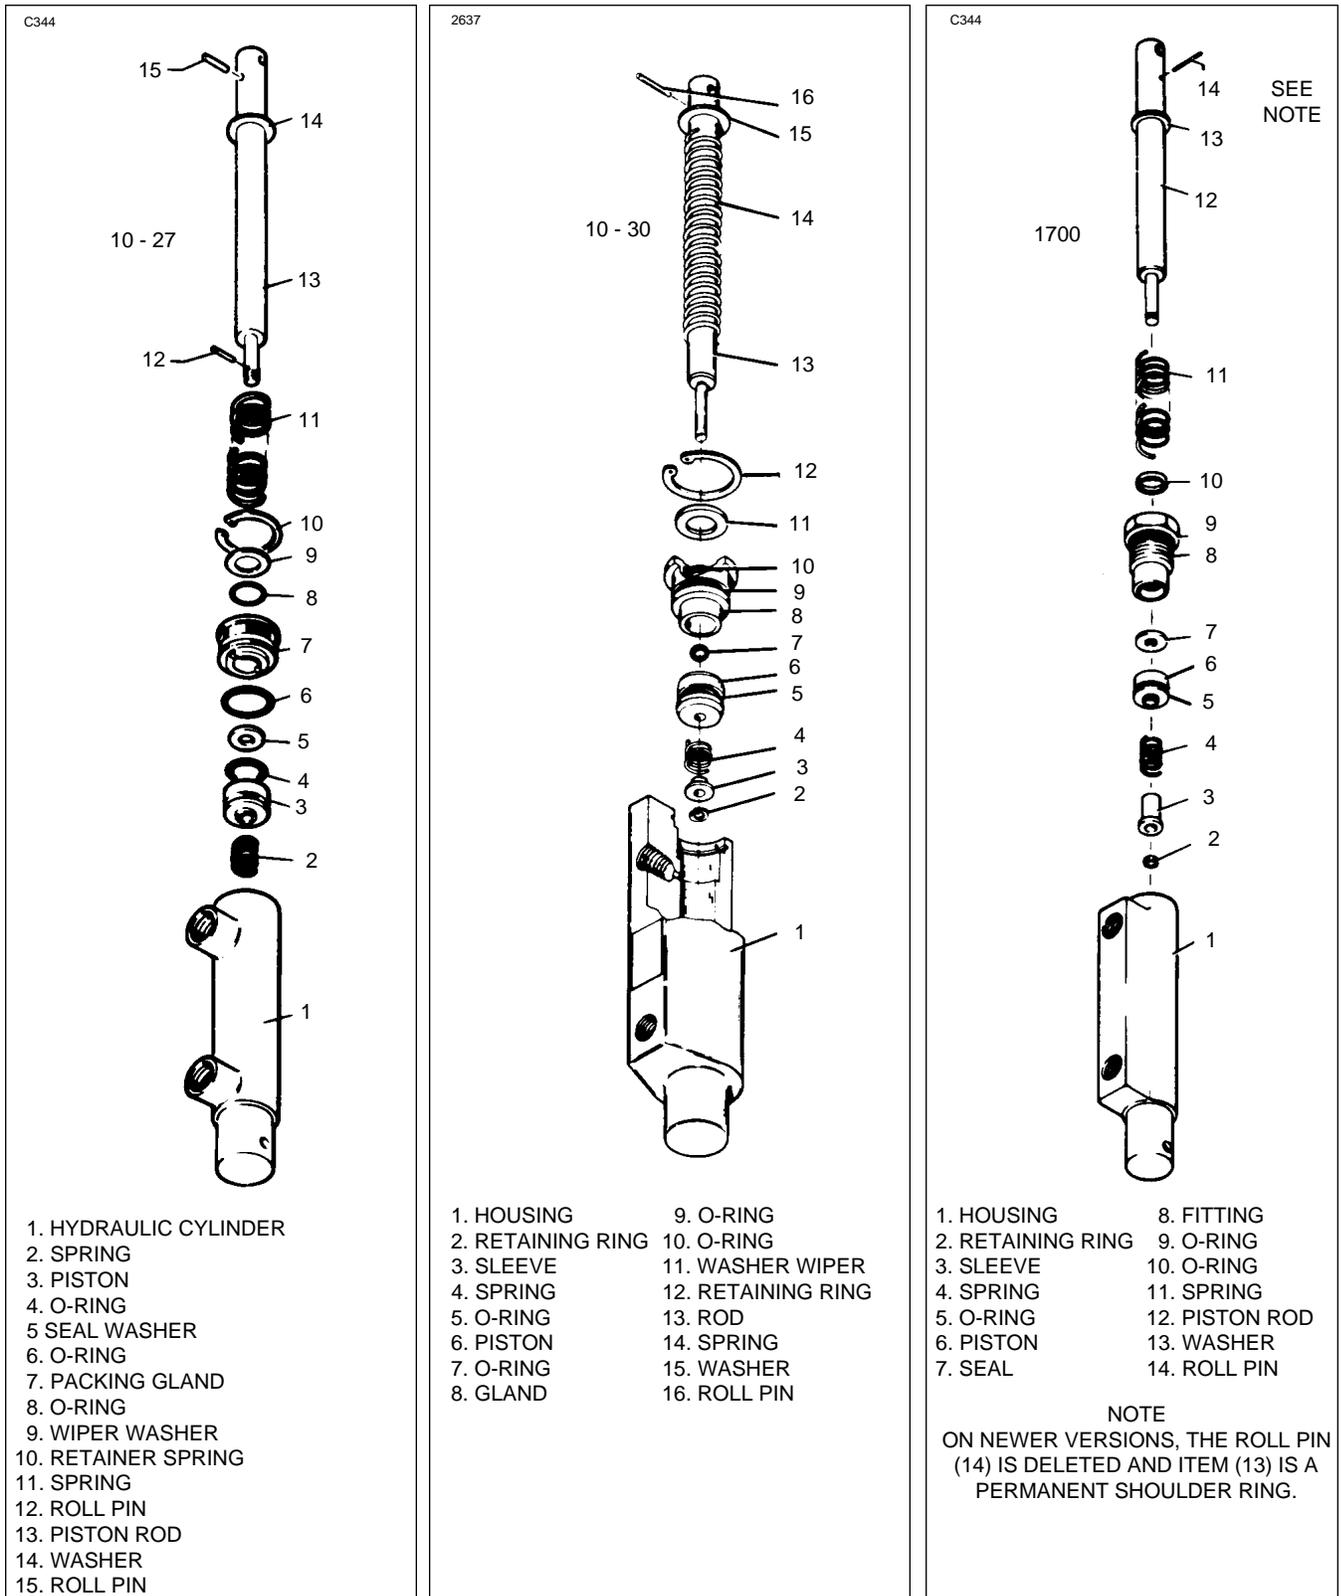

Figure 7-14 Brake Cylinder 10-27, 10-30, 17000 (Toe Brake)
- a. Cleveland cylinder number 10-27. (Refer to Figure 7-14.)
2. To disassemble the cylinder, first remove the piston rod assembly by removing the retaining ring (10) from the annular slot in the cylinder housing (1). Draw the piston rod assembly from the cylinder.
3. The piston rod assembly may be disassembled by first removing the roll pin ( 12) and then the piston assembly (3), seal (5), packing gland (7).
- b. Cleveland cylinder number 10-30. (Refer to Figure 7-14.)
2. To disassemble the cylinder, first remove the piston rod assembly by removing the retaining ring from the annular slot in the cylinder housing (1). Draw the piston rod assembly from the cylinder.
3. The piston rod assembly may be disassembled by first removing the retaining ring (2), sleeve (3) spring (4), and then the piston assembly, O-ring (5), and gland (8), and, if desired, the return spring (14).
- c. Gar-Kenyon cylinder number 17000. (Refer to Figure 7-14.)
2. To disassemble the cylinder, first remove the piston rod assembly by unscrewing the fitting (8) from the cylinder.
3. The piston rod assembly may be disassembled by first removing the retaining ring (2) securing the sleeve (3) and then removing the spring (4), piston (6), seal (7), fitting (8), and, if desired, the large return spring (11).
**7-44. ASSEMBLY OF BRAKE CYLINDER. (Refer to Figure 7-14.)**
a. Cleveland cylinder number 10-27. (Refer to Figure 7-14.)
I. Install new O-rings on the inside and outside of the packing gland (7) and on the outside of the piston (3).
2. To assemble the piston rod assembly, install on the rod (13), in order, the roll pin (15), washer (14), spring (11), washer (9), packing gland (7), seal (5), piston assembly (3), spring (2), and roll pin (12).
3. Insert the piston rod assembly in the cylinder (1) and secure with the retaining ring (10).
b. Cleveland cylinder 10-30. (Refer to Figure 7-14.)
I. Install new O-rings on the inside and outside of the packing gland (8) and on the outside of the piston (6).
2. To assemble the piston rod assembly, install on the rod (13), in order, the roll pin (16), washer (15), spring (14), washer (11), packing gland (8) with O-rings, seal (5), piston assembly (6) with O-ring, spring (4), sleeve (3) and retaining ring (2).
3. Insert the piston rod assembly in the cylinder (1) and secure with the retaining ring, (12).
c. Gar-Kenyon cylinder number 17000. (Refer to Figure 7-14.)
1. Install new O-rings on the inside and outside of the fitting (8) and on the outside of the piston (6).
2. To assemble the piston rod assembly. install on the rod (12), in order. the roll pin (14), return spring retainer washer (13), return spring (11), fitting (8) with O-rings, seal (7), piston (6) with O-ring, spring (4) and sleeve (3). Secure these pieces with the retaining ring (2) on the end of the rod.
3. Insert the piston rod assembly in the cylinder (1) and secure fitting (8).